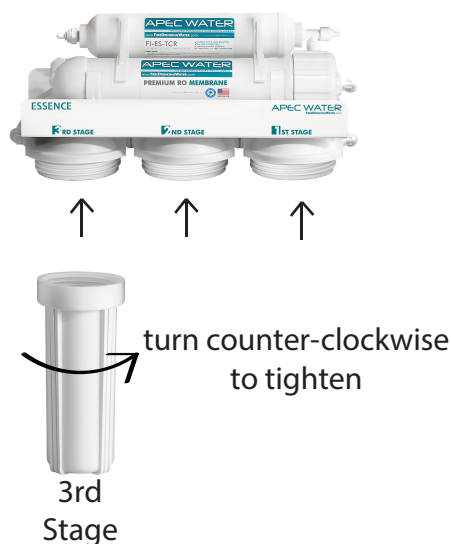

Fig. 2
**Fig. 2** Starting from the 3rd stage housing on the left, hand twist the housing onto the main system turning counterclockwise, one by one, for all 3 housings.